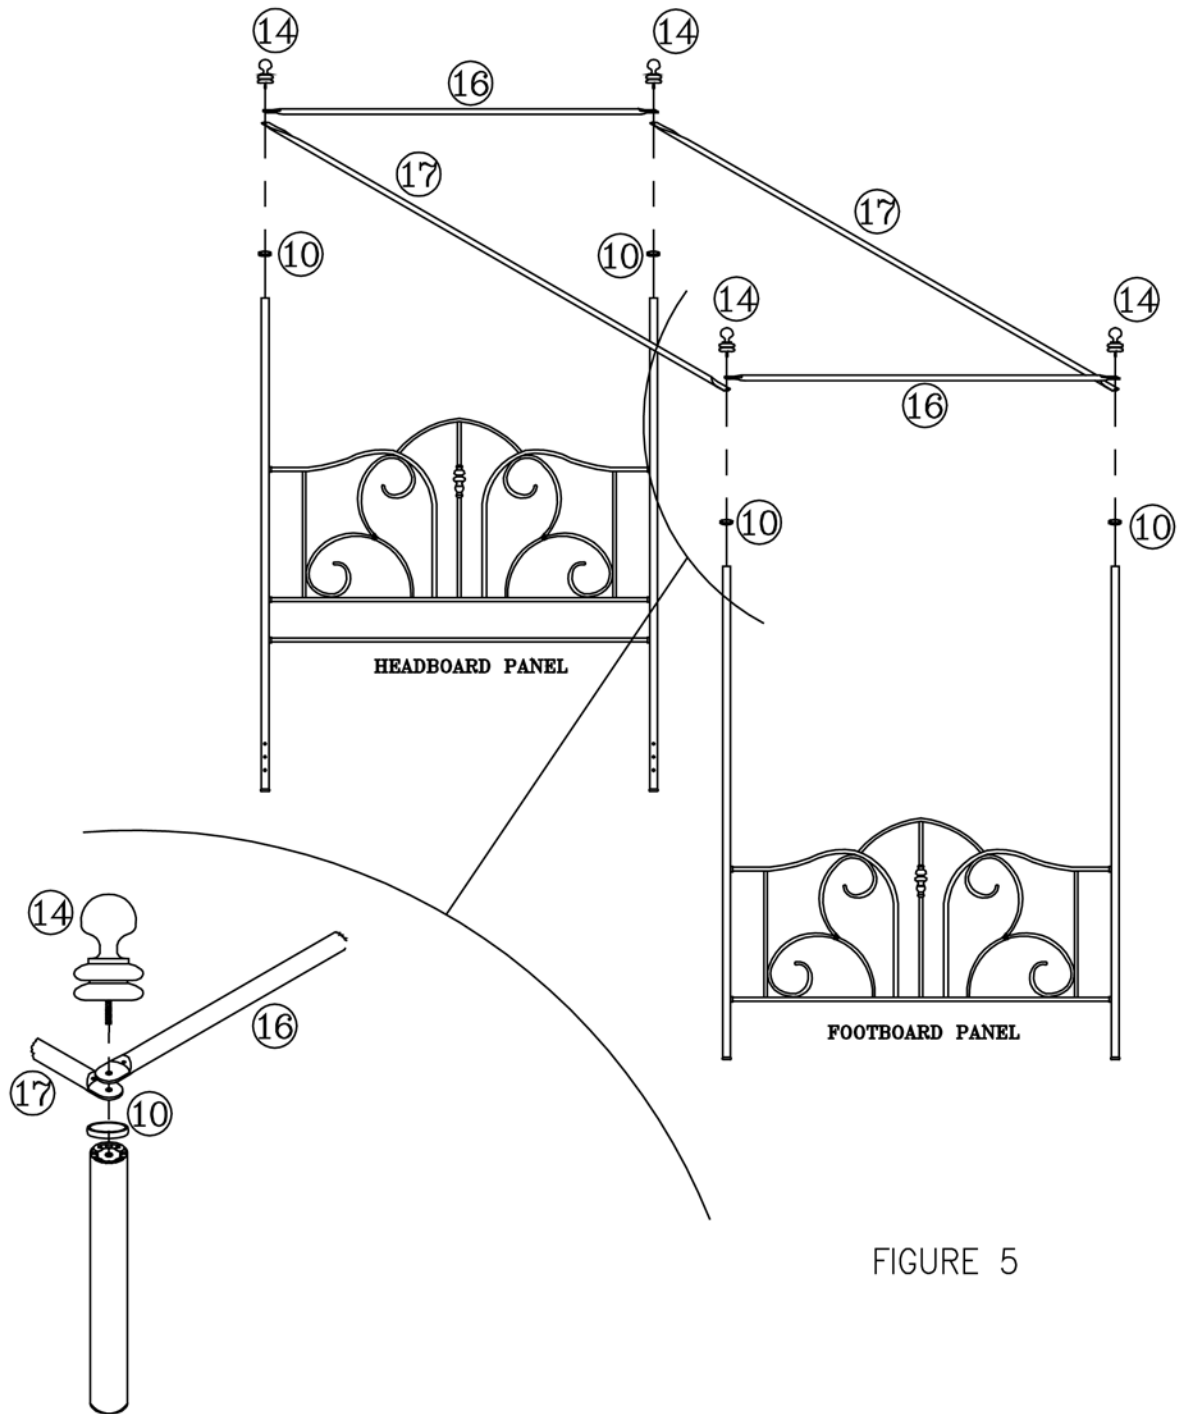

FIGURE 5
Slide metal rings (10) over headboard and footboard posts. (See Figure 5)